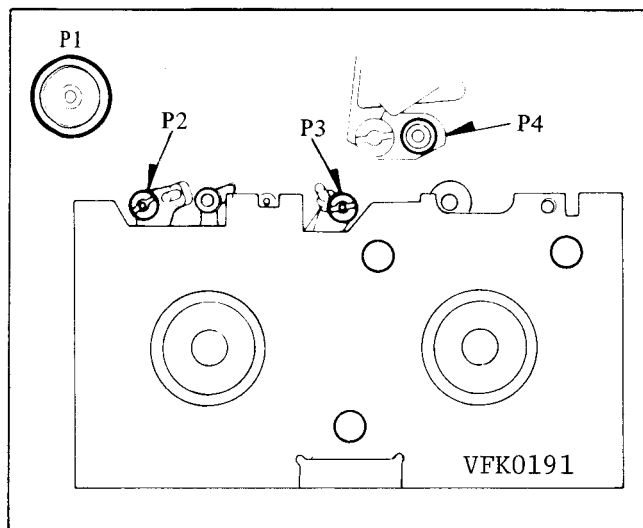

Fig. M21. Height Adjustment of Tape Guide Posts—(1)
3. If the scope display is as follows, adjust the height of P2 shown in Fig. M21.
4. If the scope display is as follows, adjust the height of P3 shown in Fig. M21.